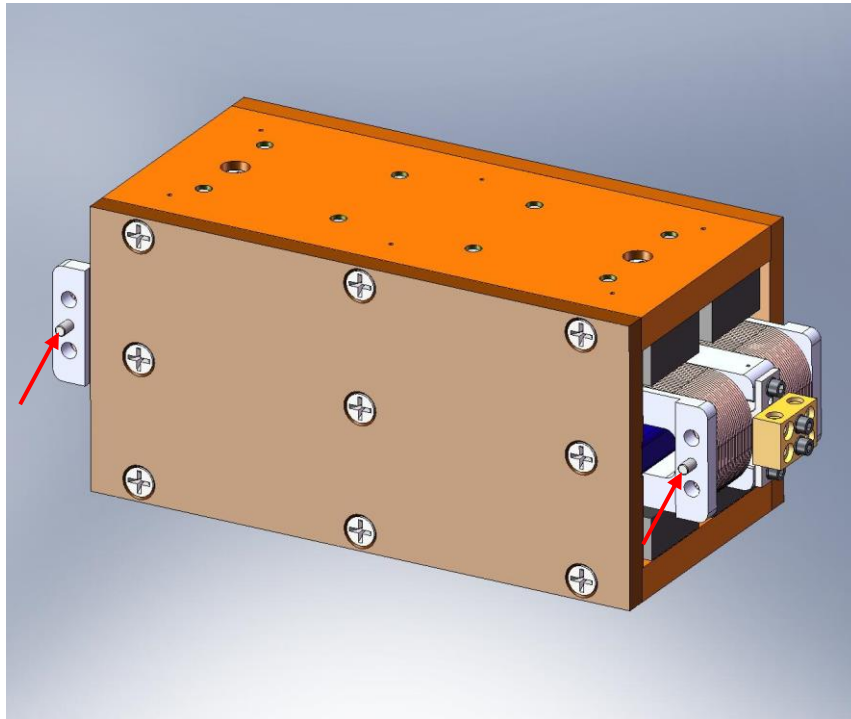

Figure 4.19. Carefully press (2) pins into the Bobbin. Note these pins go into the side opposite the Field Assembly dowel pins (see next step).
- Press (2) 1/8"x.375" dowel pins into the **PSI Actuator Bobbins**, as shown in Figure 4.19. The pins should remain proud of the **Bobbin** surface by .195" +.010"/-0. *Do not touch the coil wires with these pins! Use care when pressing the pins, to avoid yielding the Aluminum.*